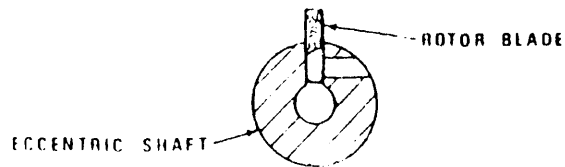

Figure 1.
When assembling Vibrator, first key upper end plate (58) to eccentric shaft - Press Fit - making sure "Locknut Side" of end plate is OUTWARD and tighten a NEW locknut (56) snug plus 1/8 turn*. Assemble blades in shaft with slots down and in shaft as shown in Figure 1.